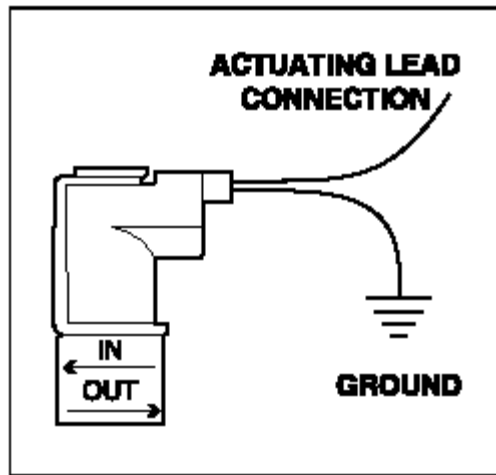
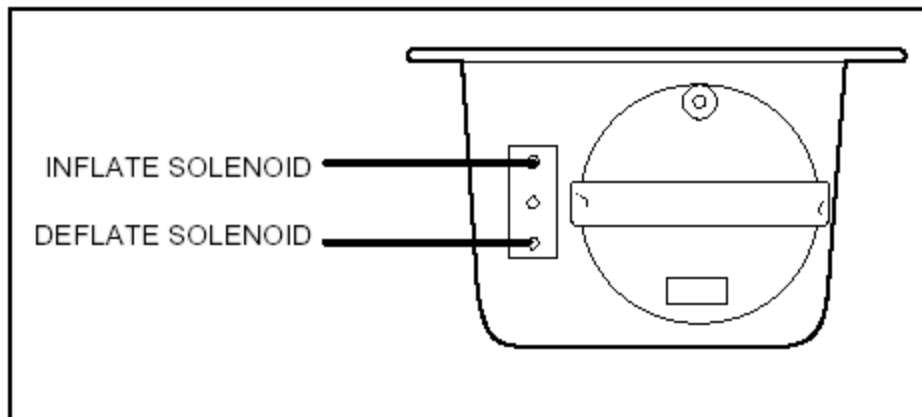

Figure 2
Figure 3
6. Connect the actuating leads to their respective solenoids for actuating the air system (Fig. 2). If you're using the Air Lift big bore system, the solenoid leads are not polarized. For each solenoid, connect the actuating lead to one of the solenoid wires and insure that the other solenoid lead is connected to a suitable chassis ground. An alternate method, if you're using the Air Lift gauge panel, would be to connect the actuating leads to the back of the switch on the gauge panel (Fig. 3).